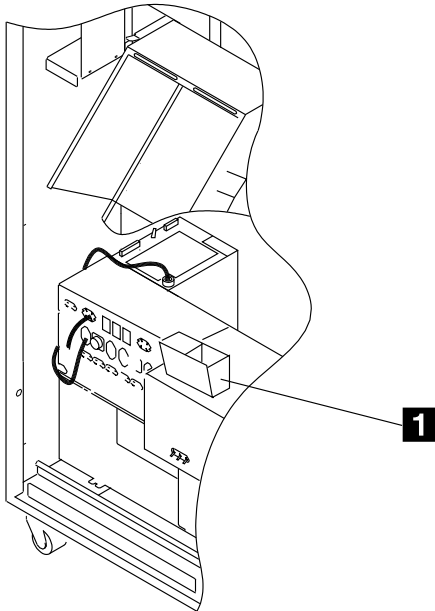

Figure 8-10. Disks and Disquettes Storage Box Installed in a 3745 31A or 61A
- a) \_\_\_\_ If you are installing a **3745 model 31A or 61A** stick the box **1** on PS1 (see Figure 8-10 on page 8-22).